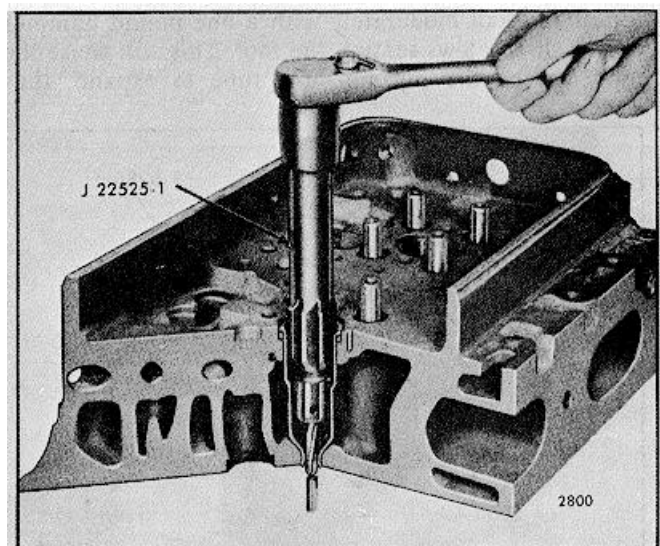
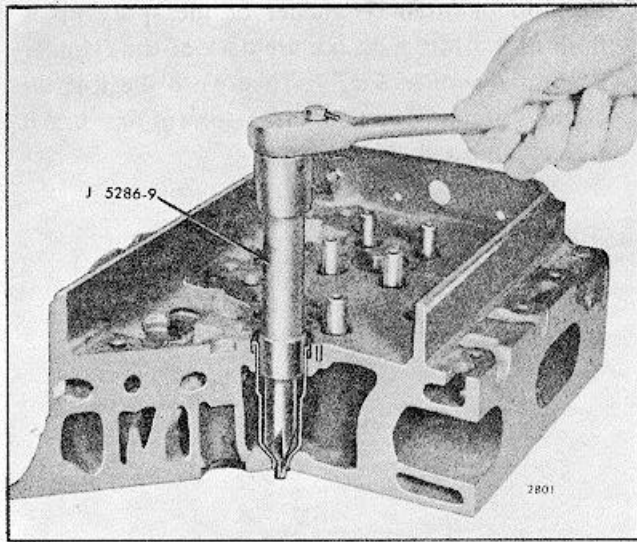

FIG. 4 Reaming Injector Tube for Injector Body Nut and Spray Tip
FIG. 5 - Reaming Injector Tube for Injector Nut
After an injector tube has been installed in a cylinder head, it must be finished in three operations: First, *hand reamed*, as shown in Fig. 4, to receive the injector body nut and spray tip; second, *spot-faced* to remove excess stock at the lower end of the injector tube; and third, *hand reamed*, as shown in Fig. 5, to provide a good seating surface for the bevel or the lower end of the *injector nut*. *Reaming must be done* carefully and without undue force or speed so as to avoid cutting through the thin wall of the injector tube.
- b. Turn the reamer in a clockwise direction (withdrawing the reamer frequently for removal of chips) until the lower shoulder of the reamer contacts the injector tube (Fig. 4). Clean out all of the chips.